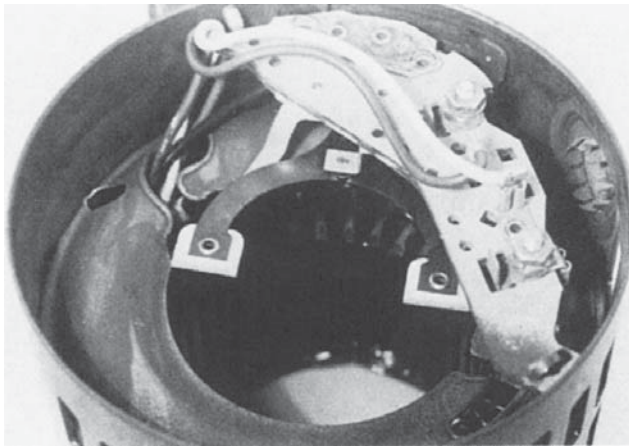

FIGURE 14-13 Motor stator-centrifugal switch. (Photo courtesy of BET Inc.)
The centrifugal switch is in series with the (S) winding of the motor (Figure 14-13). Although bearings often wear out in motors using centrifugal